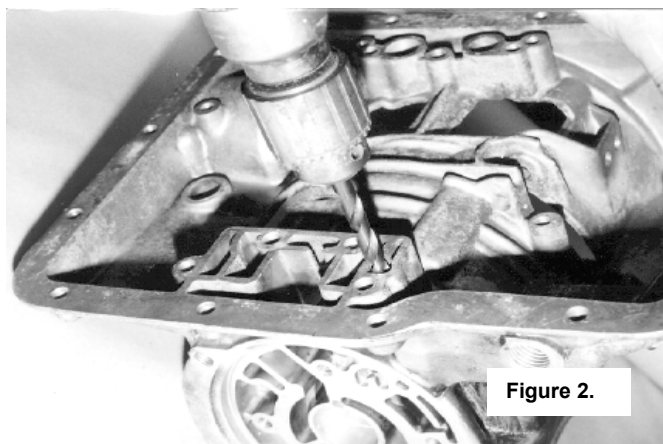

Figure 2.
2. Next, drill this hole until it intersects with the first hole (Figure 2.)